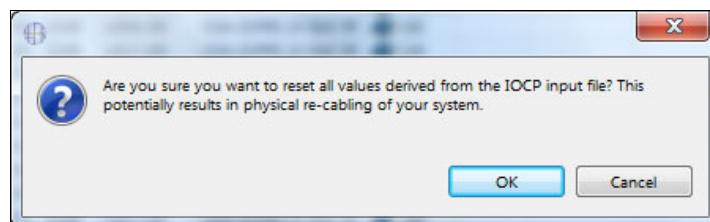

Figure 4-34 Reset CHPID assignments warning message
3. Click **OK** to confirm the reset (Figure 4-34).